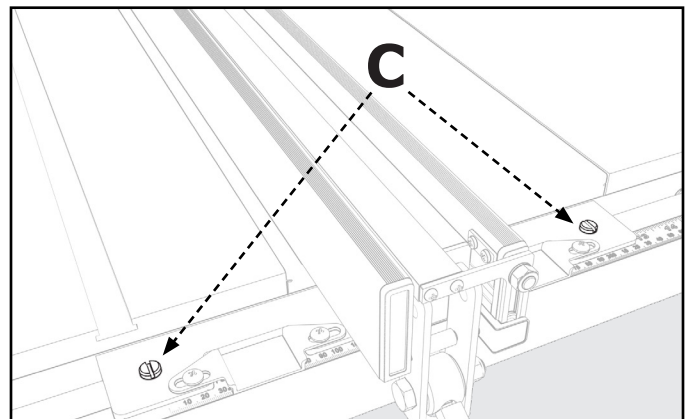

FIGURE 15
1. To adjust, locate the two Nylon Set Screws (C) on top of the Fence shown in **Figure 15**.